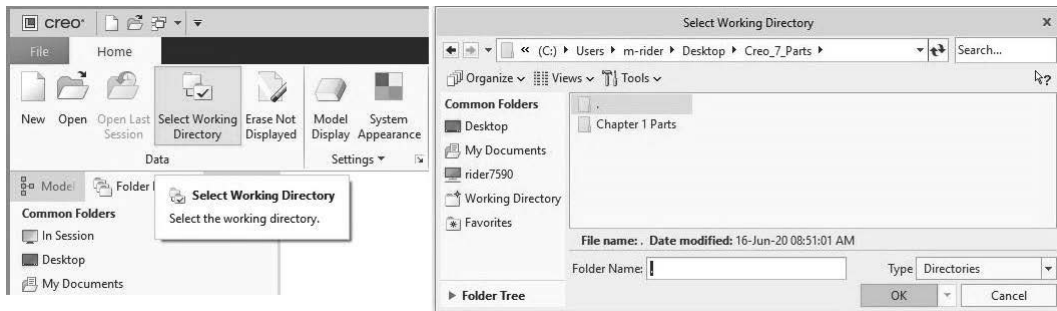

Figure 3-16 Set Working Directory
Step 2: Set your working directory, by *selecting the **Select Working Directory*** icon in the Home ribbon. Locate your working directory, and then *pick OK*. See Figure 3-16.